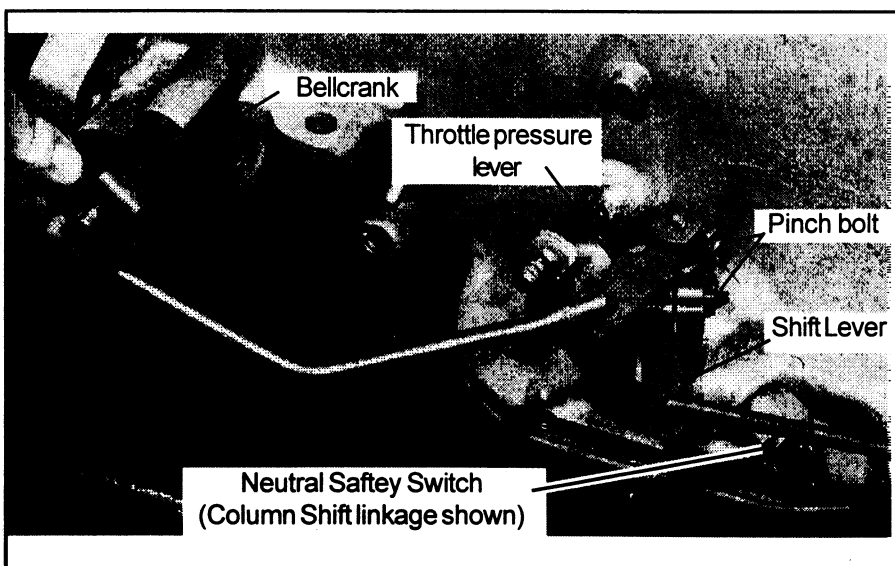

Figure 1
**STEP 3.** Disconnect throttle pressure linkage. (see fig. 1) Loosen pinch bolt on throttle lever and pry linkage off throttle pressure shaft. Disconnect rod connecting throttle pressure bellcrank to carburetor and al-
**Column Shift Models ('66 and later):** Loosen pinch bolt on shift lever and pry linkage off shift lever shaft (see fig. 1). Allow linkage to hang free.
**STEP 7.** Disconnect neutral safety wiring (see fig. 1). Pull wiring connector off neutral safety switch and let it hang free.